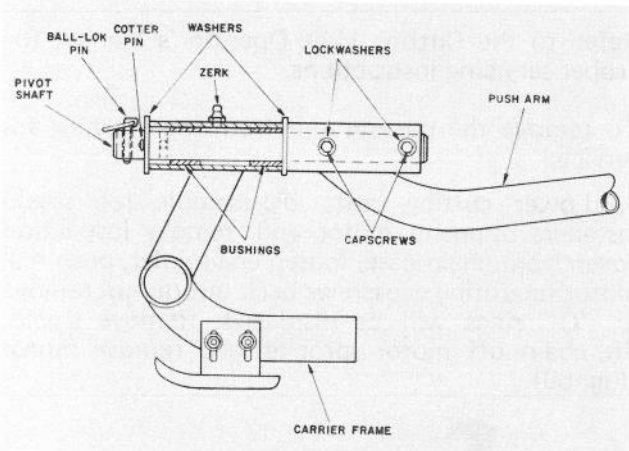

Figure 59
3. Remove ball-loc pin, cotter pin and washer from pivot shaft (Fig. 59) and slide carrier frame and cutting unit off pivot shaft.